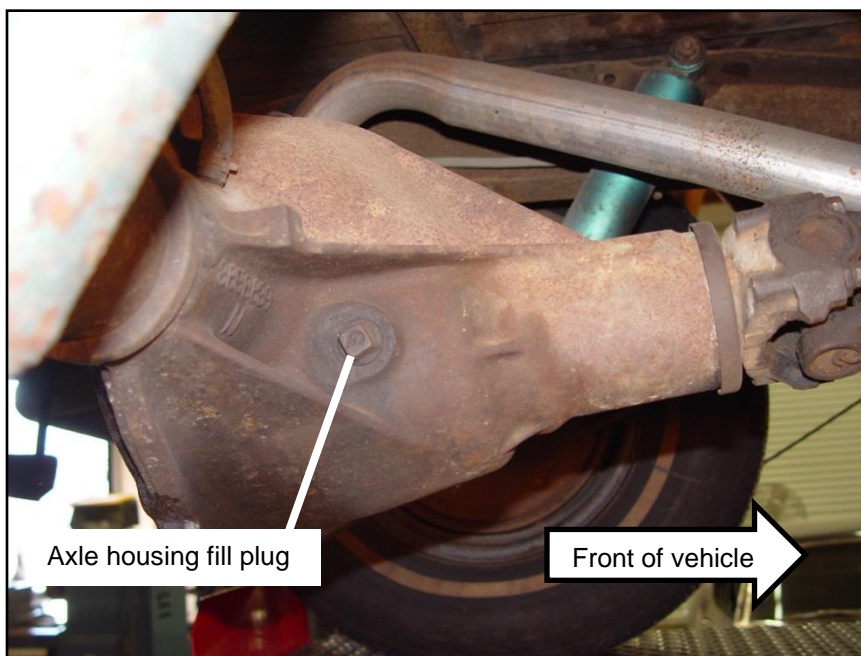

Figure 1
STEP 3. Remove the axle housing fill plug with a 9/16" socket and ratchet (**See Figure 1**).